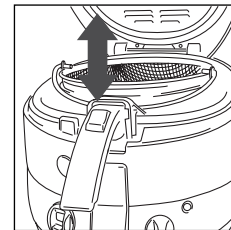

fig. 3
- Remove the basket by pulling it upwards (fig.3).
2. Put the basket into the bowl in a raised position (fig.3) and close the lid by pressing lightly down upon it until the hooks